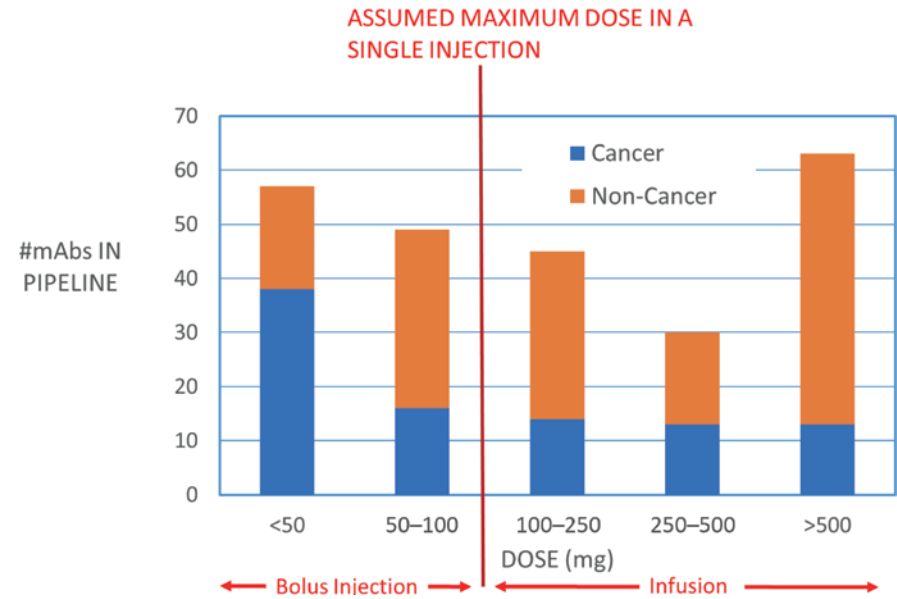

Figure 3: Drug pipeline data from 2008 by dose.
market and, in contrast to autoinjectors, no dominant design has been established. Figure 3 shows that some of the needs of high-dose delivery anticipated in 2008 have been addressed by increasing drug concentrations up to 150 mg/mL and drug volumes of up to 2 mL. More recently, there has been increasing interest in moving drugs that are currently delivered as an IV infusion to subcutaneous (SC) injection at a local clinic, or even in patients’ homes. With this trend in mind, a recent systematic review of clinical-stage and approved IV and SC biopharmaceuticals identified 186 biopharmaceutical candidates that would potentially be suitable for large-volume SC delivery with volumes of >2 mL, representing around 15% of all IV and SC biopharmaceuticals.¹ It then becomes a question of what the best way is to deliver these doses. On-body devices can deliver a wide range of drug volumes over a variety of delivery times, so could address this need; however, compared with autoinjectors, their usability is less well established and the technology less well proven. To support ease of use, current devices usually have an integrated cannula insertion mechanism and an adhesive means of attaching the device to the body during use.